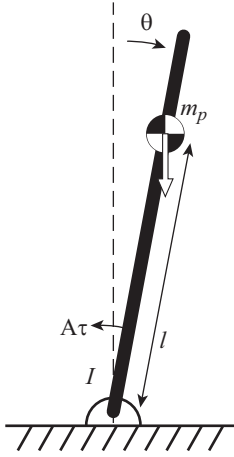
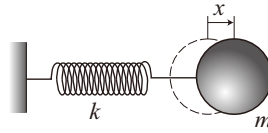

Figure 3: Equivalent Pendulum
Figure 4: Spring-Mass System
This equation represents the same situation as a pendulum with mass m_p and moment of inertia I around the axis fixed on a shaft, receiving torque $A\tau$ from a motor, as shown in Figure 3.
Let's consider the behavior of the pendulum in Figure 3. When there is no torque from the motor (= no control), equation (12) becomes $I \ddot{\theta} = m_p g l \theta$. Formally, this is the same as the spring equation, so let's compare it with the spring-mass system in Figure 4. The equation of motion for the spring-mass system in Figure 4 is $m \ddot{x} = -kx$. Comparing this with the previous equation, we can see that **the inverted pendulum is equivalent to a spring-mass system with a spring constant of $-m_p g l$** . However, since the spring constant ($-m_p g l$) is negative, it performs an unstable operation exactly opposite to a spring (if it moves slightly away from the equilibrium point, a force acts to move it further away).